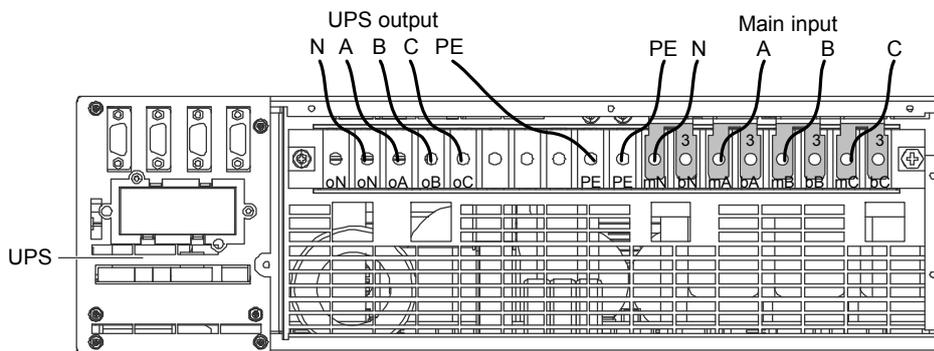
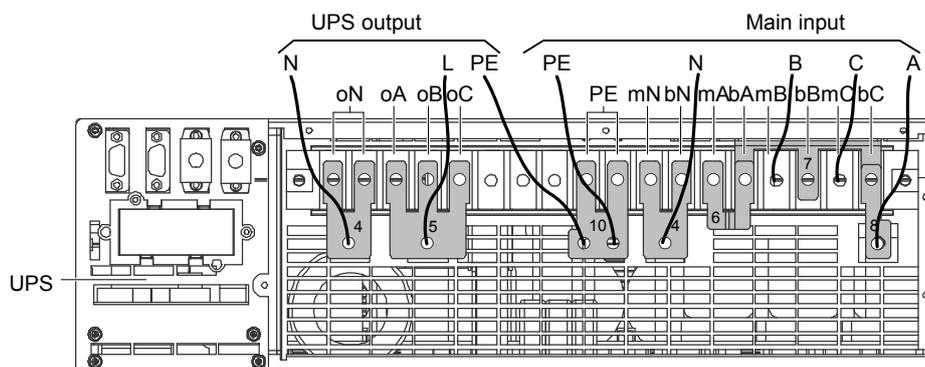
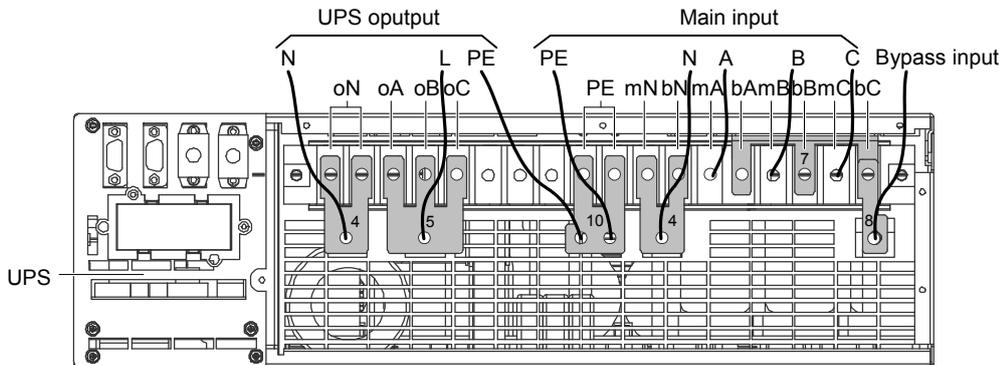
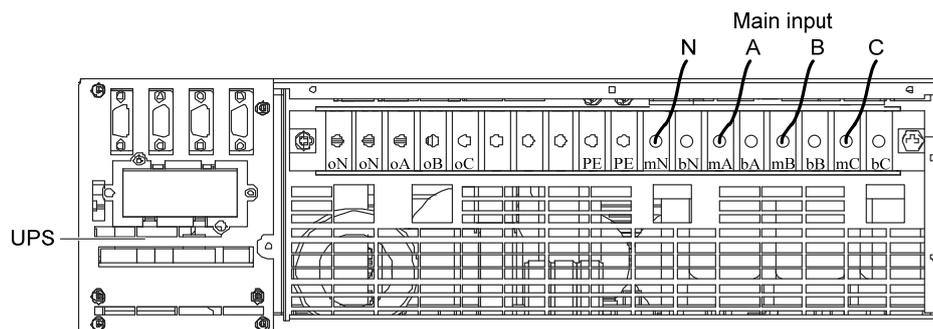

Figure 2-16 3-in 3-out, common source configuration cable connection
Figure 2-19 3-in 1-out, common source configuration cable connection
Figure 2-20 3-in 1-out, split-bypass configuration cable connection
Figure 2-22 Main input
5. Connect the live lines (output phase A, output phase B and output phase C), N line and PE line respectively to the I/O terminal block (oA, oB, oC, oN and PE terminals) of the UPS, as shown in Figure 2-16.
6. As shown in Figure 2-19, short connect bA, bB and bC terminals using the copper shorting bar 7, short connect the two PE terminals of the I/O terminal block of the UPS using the copper shorting bar 10 with insulating film, short connect oA, oB and oC terminals using the copper shorting bar 5, short connect mA and bA terminals using the copper shorting bar 6, short connect mN and bN terminals, and two oN terminals using the two copper shorting bars 4.
7. Connect the copper shorting bar 8 to one end of the copper shorting bar 7 (see Figure 2-19), and connect the live line (input phase A) to the copper shorting bar 8.
7. As shown in Figure 2-20, short connect the two PE terminals of the I/O terminal block of the UPS using the copper shorting bar 10 with insulating film, short connect bA, bB and bC terminals using the copper shorting bar 7, short connect oA, oB and oC terminals using the copper shorting bar 5, short connect mN and bN terminals, and two oN terminals using the two copper shorting bar 4.
9. Connect the copper shorting bar 8 to one end of the copper shorting bar 7 (see Figure 2-20), and connect the live line (bypass input phase A) to the copper shorting bar 8.
1. Remove all the copper shorting bars 3 shown in Figure 2-16 of the 3-in 3-out system; connect the main input cables only. It is prohibited to connect the bypass input cables, output cables and battery cables, as shown in Figure 2-22.
1. Remove all copper shorting bars shown in Figure 2-19 and Figure 2-20 of the 3-in 1-out system, connect the main input cables only. It is prohibited to connect the bypass input cables, output cables and battery cables, as shown in Figure 2-22.